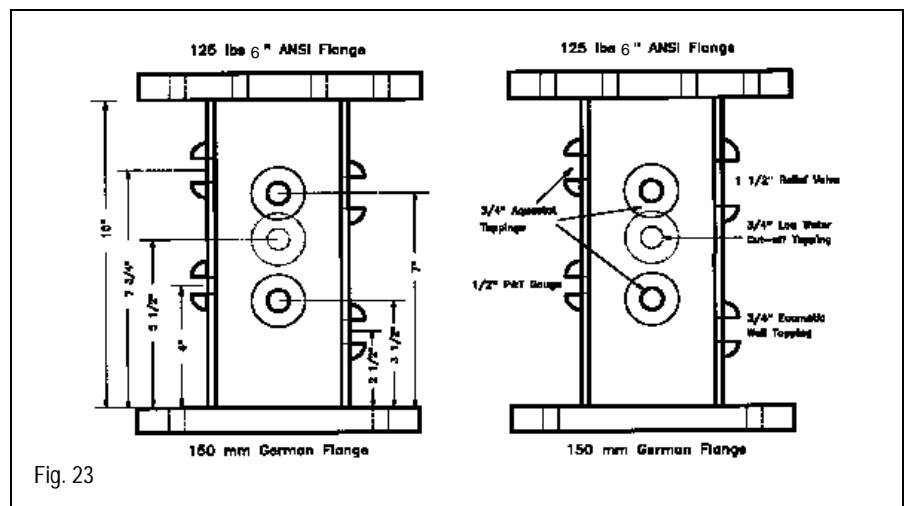

Fig. 23
- Place gasket and USA supply manifold on supply connection. Plug all ports using aquastat wells or plugs. Blank off 6" supply connection. (Blanking flange not supplied) (Fig. 23).